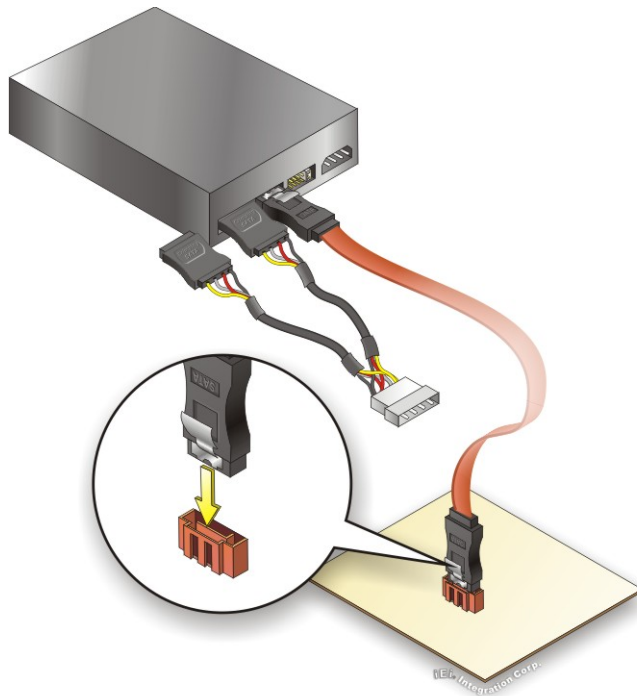

Figure 4-20: SATA Power Drive Connection
- Step 3:** Connect the cable to the SATA disk. Connect the connector on the other end of the cable to the connector at the back of the SATA drive. See **Figure 4-20**.
- Step 4:** Connect the SATA power cable. Connect the SATA power connector to the back of the SATA drive. See **Figure 4-20**.